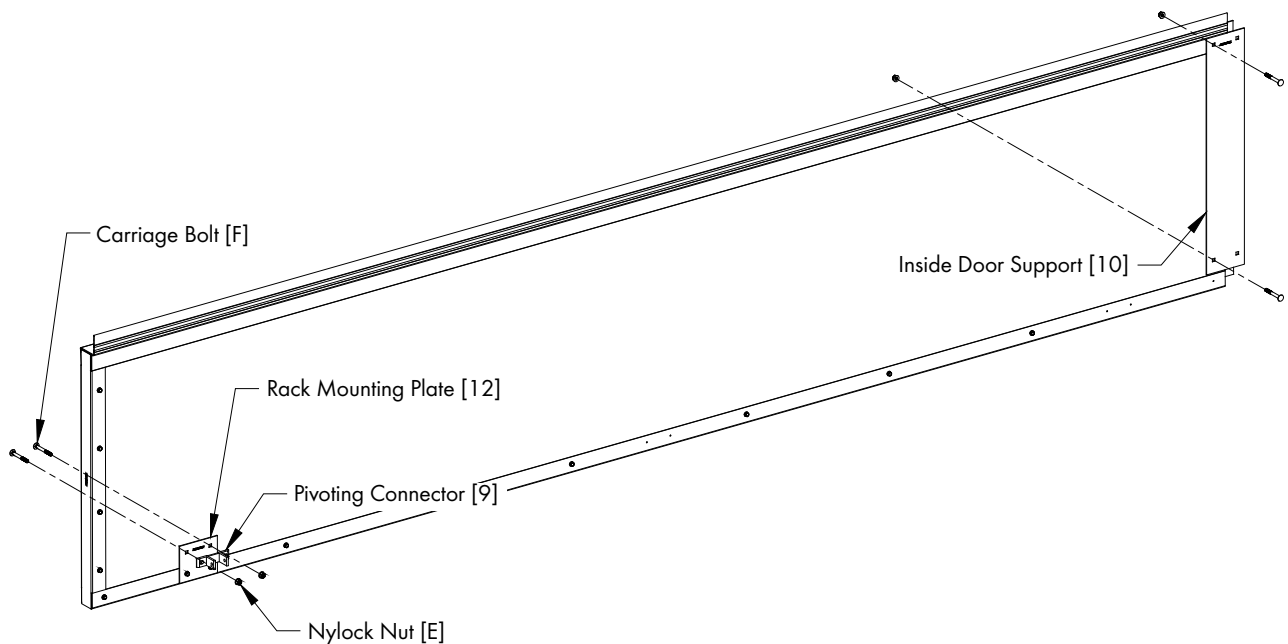

Figure 8
Fasten Inside Door Support [10] to back of CSI24 Door in line with Outside Door Support [11] using (2) Carriage Bolts [F] and Nylock Nuts [E] with the Carriage Bolts on the Hinge side of the door. See Figure 8. Secure the Pivoting Connector [9] to the Pair of holes in Rack Mounting Plate on Hinge Side using (2) Carriage Bolts [F] and Nylock Nuts [E], with the Nuts on the Pivoting Connector. See Figure 8.